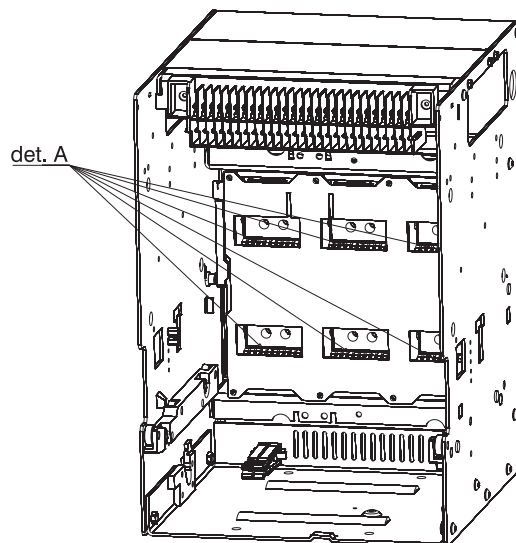

Figure 39.
- Check the circuit-breaking couple for damage (for the extractable switch, see feature A, Figure 39).